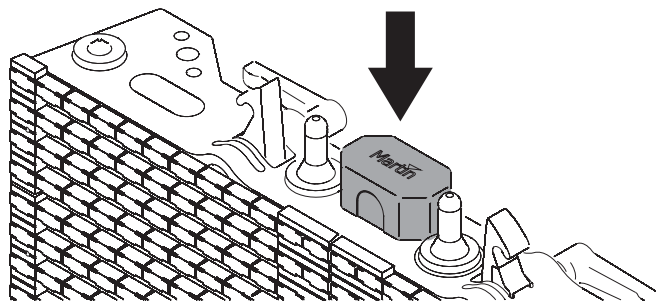

Figure 4: Connector cap
5. Remove the supplied rubber connector caps (see Figure 4) and store them safely for re-use.